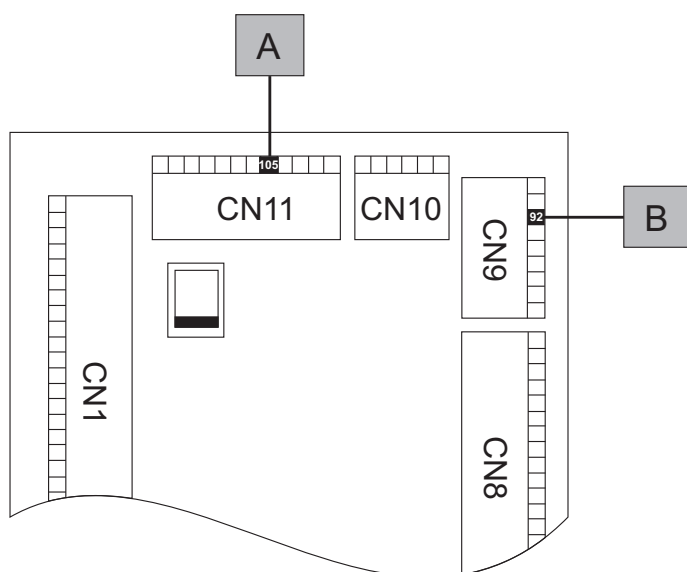

Figure 237: Using Two Speed Sensors
The best practice approach for variable speed applications with Reject Confirmation (RC) is to use two independent Speed Sensors, as shown in Figure 237.